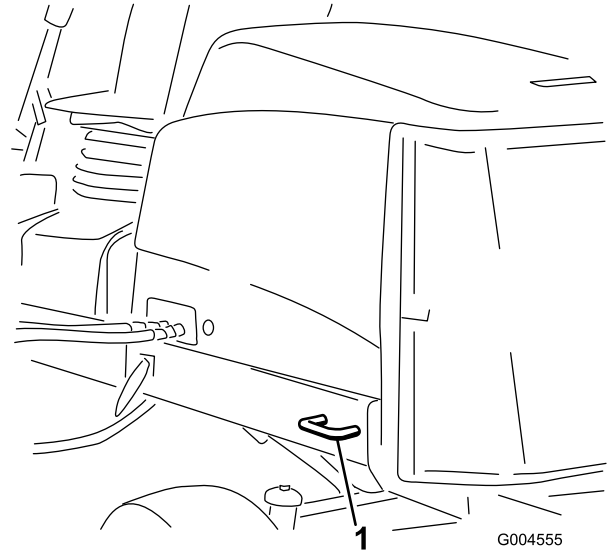

Figure 23
- **Rear of the machine**—each side of the machine on the rear frame (Figure 23).